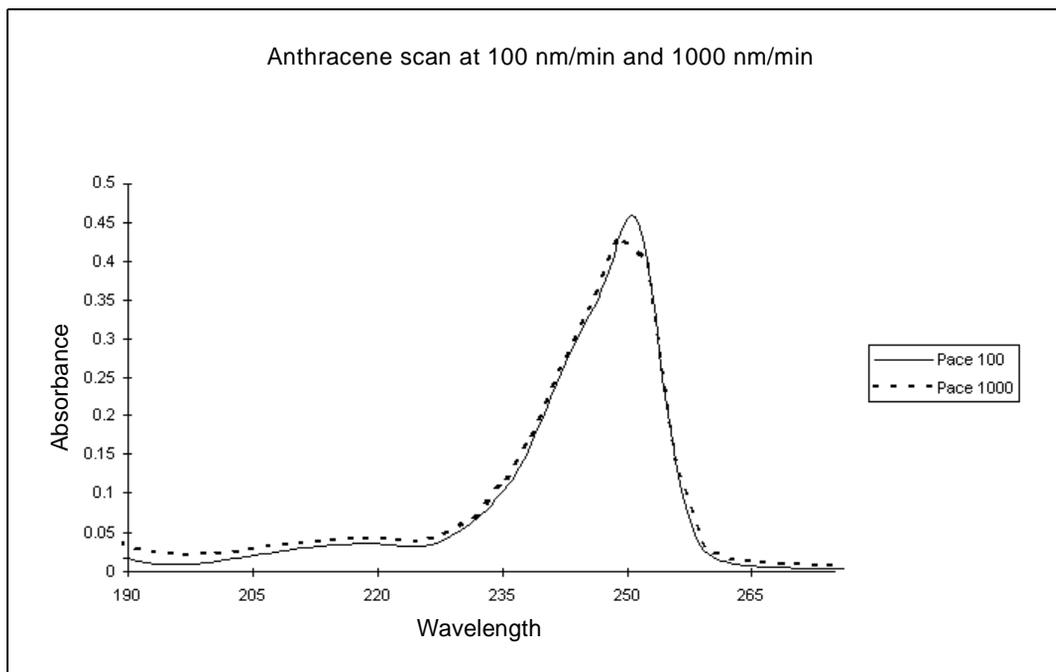

Figure 3-26 Scan of Anthracene at 100 nm/min and 1000 nm/min
- **Pace** – Rate of scanning in nm/min. Determines how fast the scan is output and data is acquired. The scan data is acquired at the highest possible resolution for the specified pace. When the pace is set to a very high number, the resolution is reduced, as in the following examples and Figure 3-26.
Figure 3-26 shows two scans of anthracene overlaid. At a pace of 1000 nm/min, the overlaid scan (with open circles) shows a reduced number of points scanned, lowering the resolution in comparison with the original scan done at a pace of 100 nm/min.
5. Enter a value in the Pace field for the rate at which the 2487 Detector scans the specified wavelength range. The default is 100 nm/min. The allowable range is from 30 to 1000 nm. Refer to Figure 3-26, which shows two scans of anthracene overlaid, one at 100 nm/min and one at 1000 nm/min.